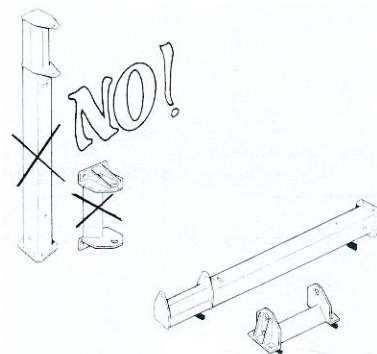

fig.15
- **All parts or components must be set down or fixed in a stable way in all phases of handling, transport and storage and they must not be tilted or laid down in a vertical position or on one side (fig 15).**